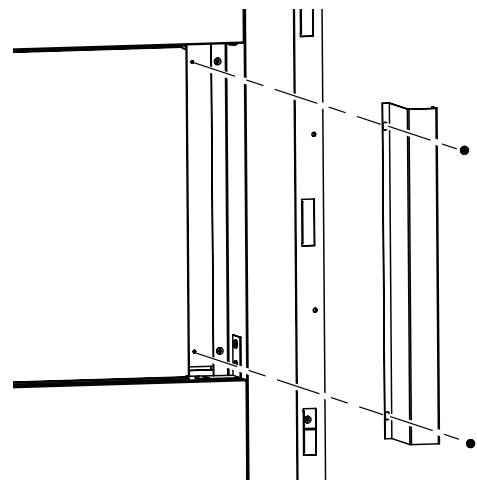

Figure 23 - Installing Side Face Filler for See-Thru Applications
1. Screw side face filler into firebox side baffle using 2 screws on both the left and right side as shown in **Figure 23**.